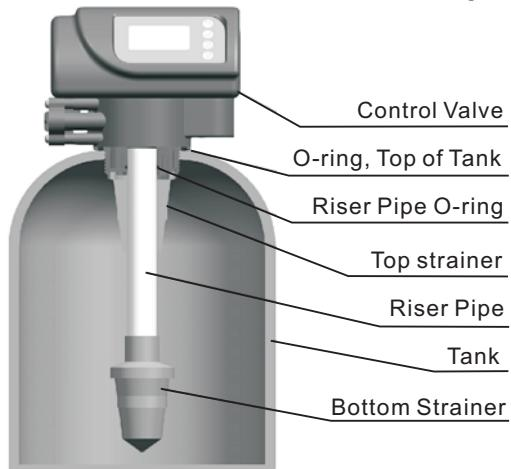

Figure 1-1
① Install Control Valve
- a. As the Figure 1-1 shows, select the riser pipe with 26.7mm OD, glue the riser pipe to the bottom strainer and put it into the resin tank, then cut off the exceeding tube out of tank top opening. Plug the riser pipe in case of resin entering.